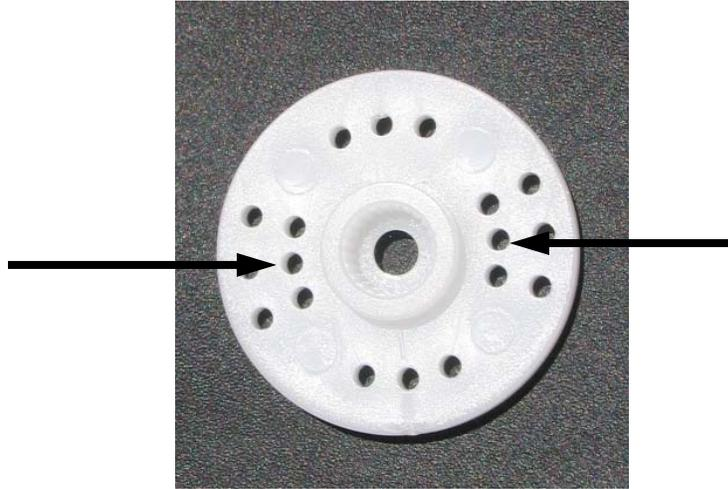

Figure 4
4. Using a 1/8" drill bit, drill out the holes shown in figure 4 of the HiTec servo.